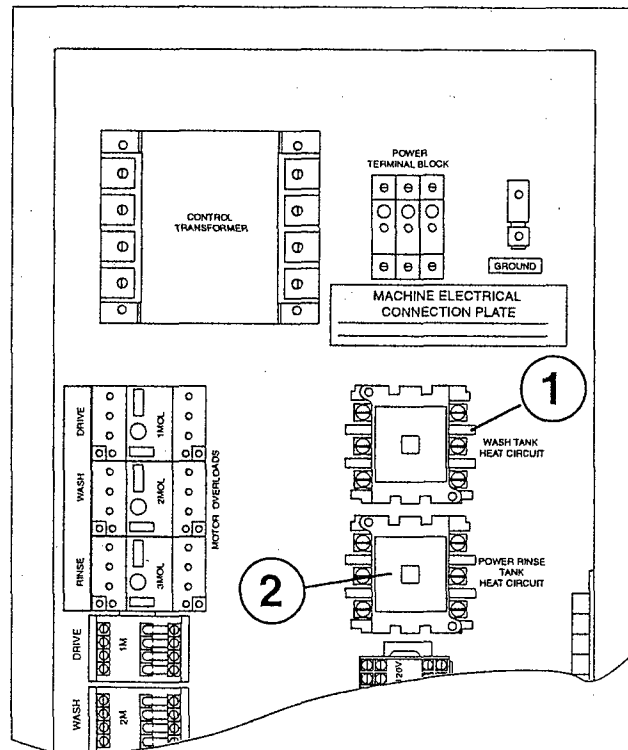
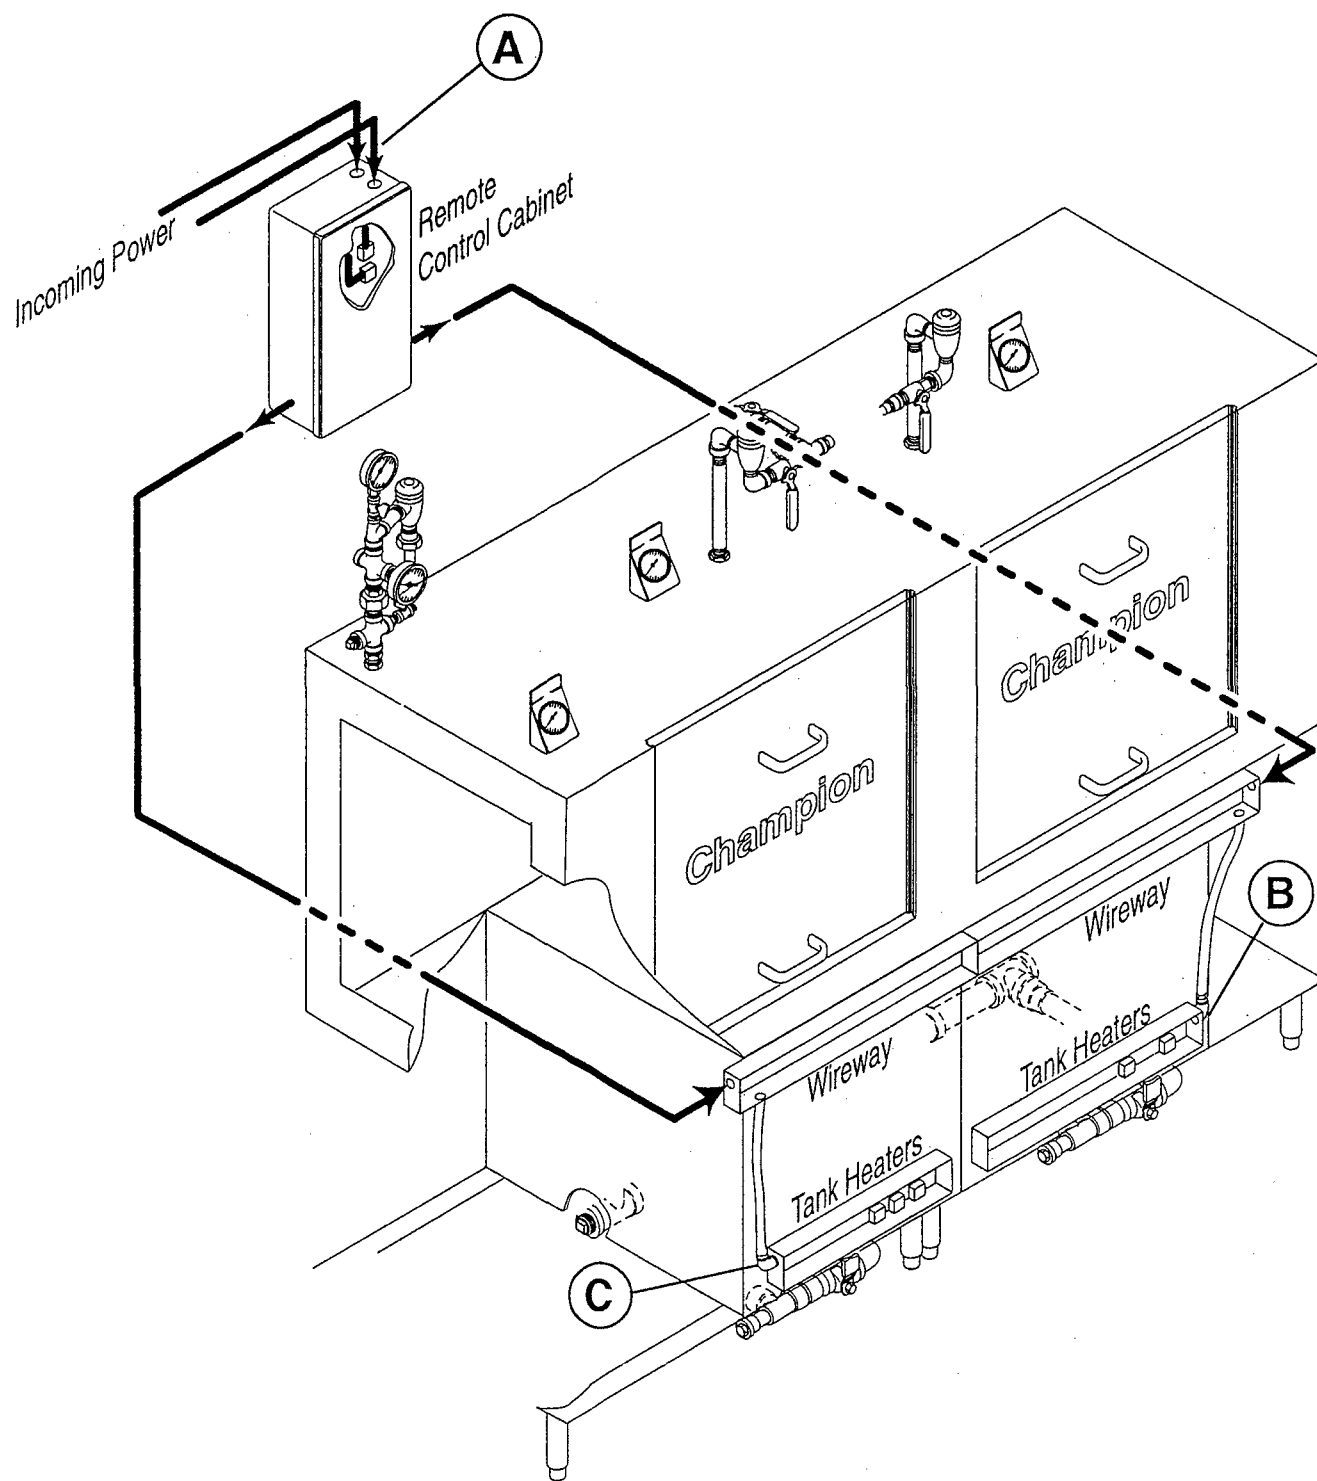

Figure 2.4
Figure 2.5
Refer to Fig. 2.4 below, and Fig. 2.5, page 15.
3. Item A, Figure 2.5, page 15, illustrates the incoming power connections to the remote control cabinet. Connections are shown entering the top of the cabinet, but the installer may choose to route connections to a different location if necessary.
4. Items B and C, Figure 2.5, page 15, illustrate the conduit routing from the remote control cabinet to the tank heater junction boxes located on the front of the dishwasher.